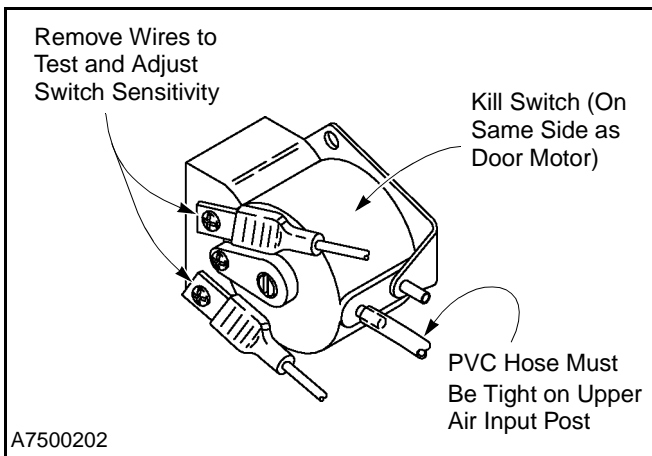

Figure 77
3. Make sure the PVC hose is tight on the upper air input post to prevent air leakage and to ensure the hose will not vibrate off the post. Also make sure the hose is not kinked. (See Figure 77.)